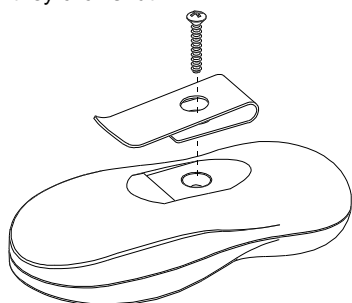

Figure 4. Belt Clip Installation
Each transmitter of this series is supplied with a belt clip that can be optionally attached to the unit (see Figure 4)
**Note:** If the user needs the belt clip (included), position the belt clip as shown in Figure 4 and insert the screw through the hole in the clip.